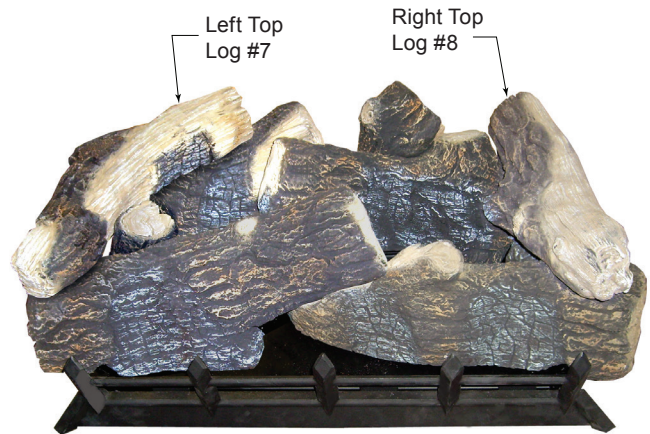

Figure 34. Place Right Top Log #8
7. Place left top log (#7) on left rear log (#4) and left front log (#5) using locating grooves on bottom of #7 and locating blocks on logs #4 and #5. Figure 34.
8. Place right top log (#8) onto right rear (#3) and right front (#2) logs using locator on bottom of right top log. Figure 34.